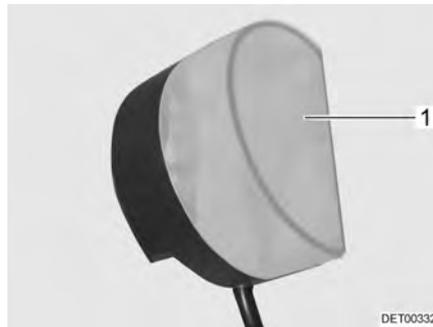

Fig. 258 Wardrobe light
- Press the light covering (Fig. 258,1) lightly together and remove it.